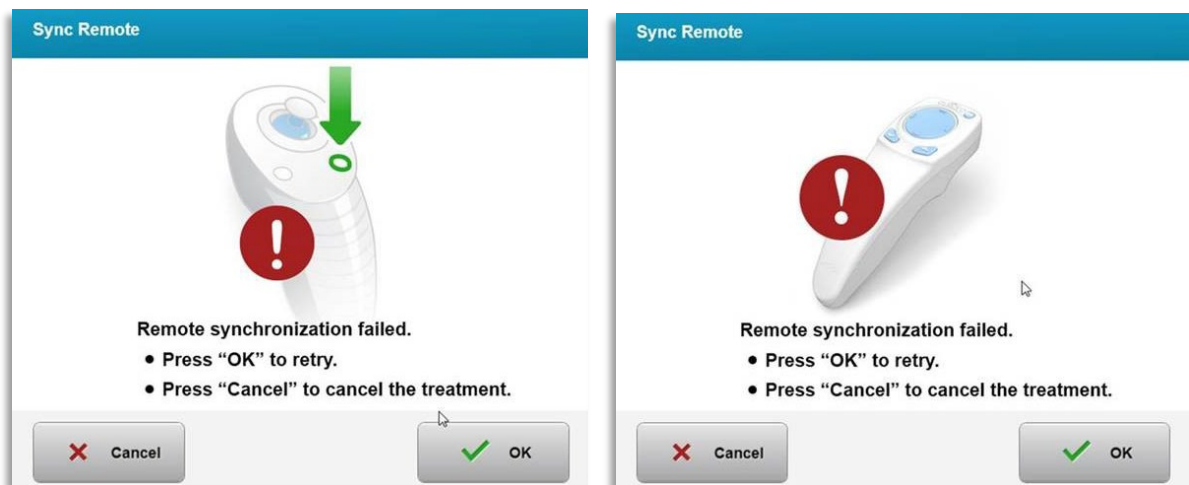

Figure 3-18. Sync Process Timed Out
- o If the sync button is not pressed within the 15 second timeframe, a message stating “Sync Alignment Remote” will appear onscreen as shown in Figure 3-18.